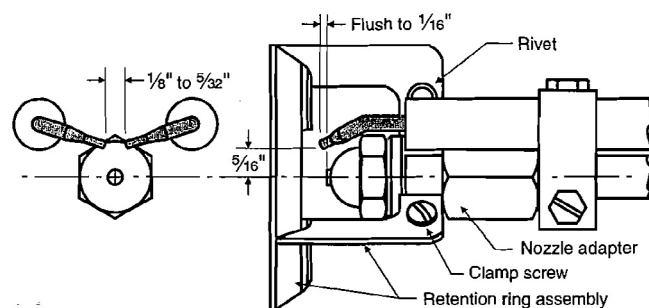

Figure 8-1: Electrode Settings
- e. Readjust air band to preliminary setting that corresponds to the nozzle installed, refer to Figure 3-3. Inspect and measure burner electrodes. Refer to Figure 8-1 for proper electrode setting. Readjust electrode setting to the proper dimensions if necessary.